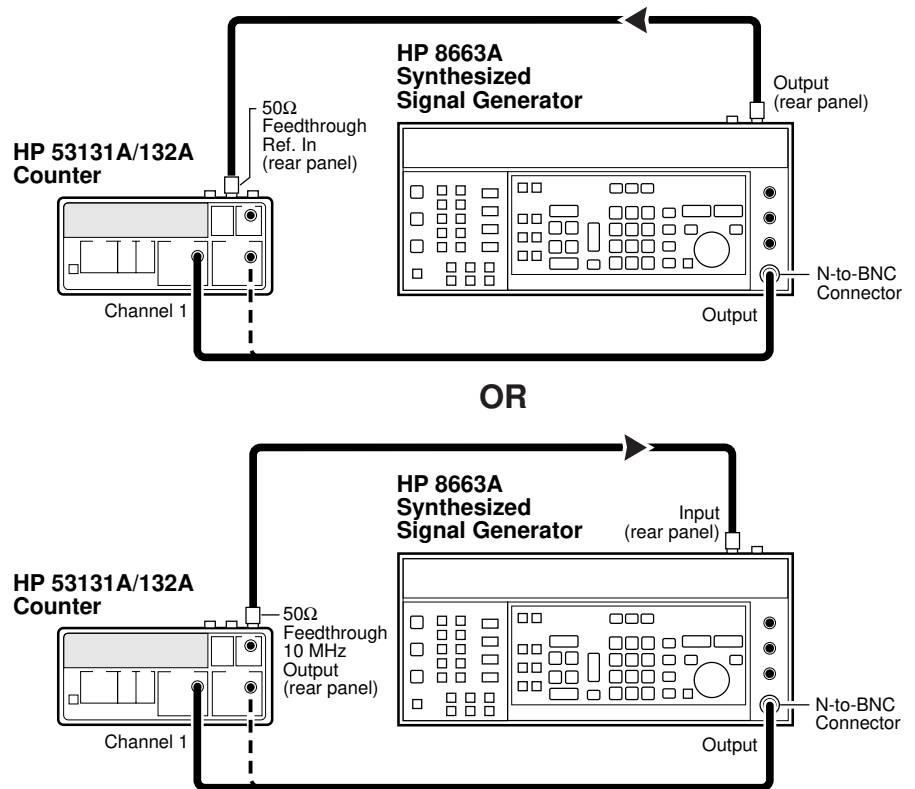

Figure 1-7. Channels 1 and 2 Frequency Sensitivity Test Setup
- 1 Connect the timebase output of the unit with the better timebase to the timebase reference input of the other unit as shown in Figure 1-7.
For this test, make sure you always use the unit (HP 53131A/132A or HP 8663A) that contains the better 10 MHz timebase as the output source as shown in Figure 1-7.